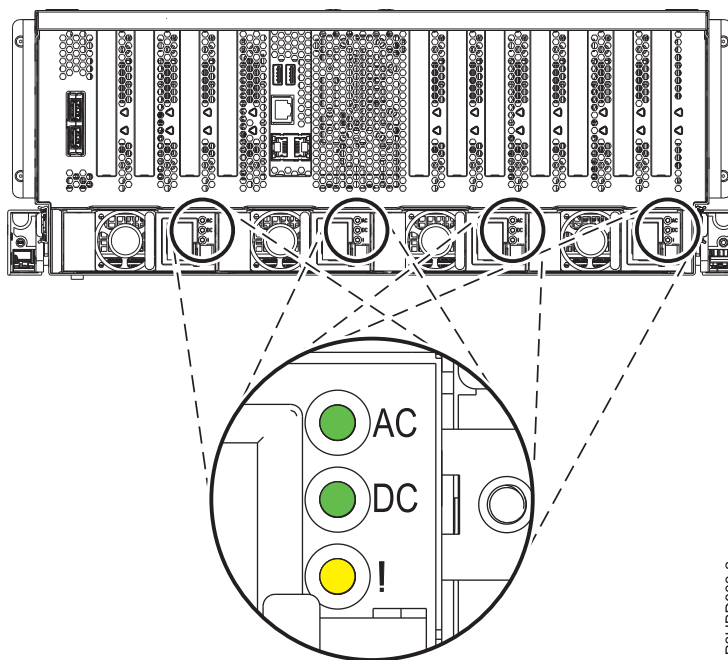

Figure 1. Location of the power supplies and LEDs in the 8408-44E or 8408-E8E system
4. Locate the light-emitting diodes (LEDs) on the power supplies. Four power supplies are installed in the rear of the system. Figure 1 shows the location of the power supplies in an 8408-44E or 8408-E8E system and the position of the LEDs on the power supply.